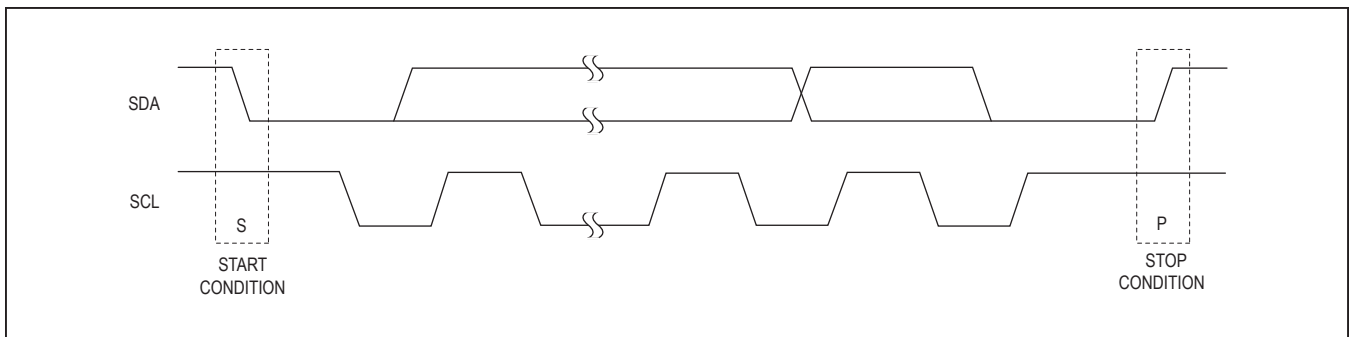

Figure 4. START and STOP Conditions
The IC operates as a slave device that sends and receives data through an I²C-compatible 2-wire interface. The interface uses a serial-data line (SDA) and a serial-clock line (SCL) to achieve bidirectional communication between master(s) and slave(s). A master (typically a microcontroller) initiates all data transfers to and from the IC and generates the SCL clock that synchronizes the data transfer. The SDA line operates as both an input and an open-drain output. A pullup resistor is required on SDA. The SCL line operates only as an input. A pullup resistor is required on SCL if there are multiple masters on the 2-wire interface, or if the master in a single-master system has an open-drain SCL output. Each transmission consists of a START (S) condition (Figure 4) sent by a master, followed by the MAX14646E 7-bit slave address plus R/W bit, a register address byte, one or more data bytes, and finally a STOP (P) condition.
Both SCL and SDA remain high when the interface is not busy. A master signals the beginning of a transmission with a START condition by transitioning SDA from high to low while SCL is high (Figure 4.) When the master has finished communicating with the slave, it issues a STOP